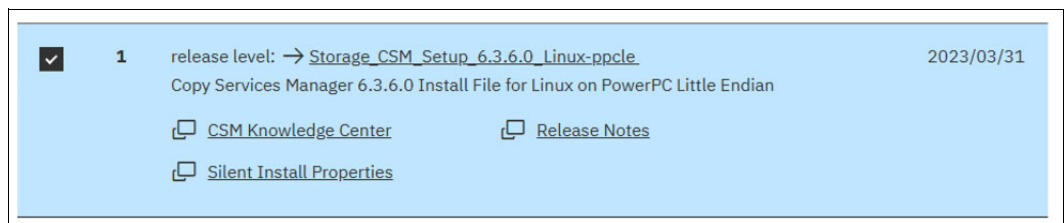

Figure 6-6 IBM Copy Services Manager Linux-ppcle package
2. Be sure to download the correct Linux-ppcle release. Figure 6-6 shows the correct package type selected. Check the Release Notes, and if there is a newer fix pack file, you can use it instead.